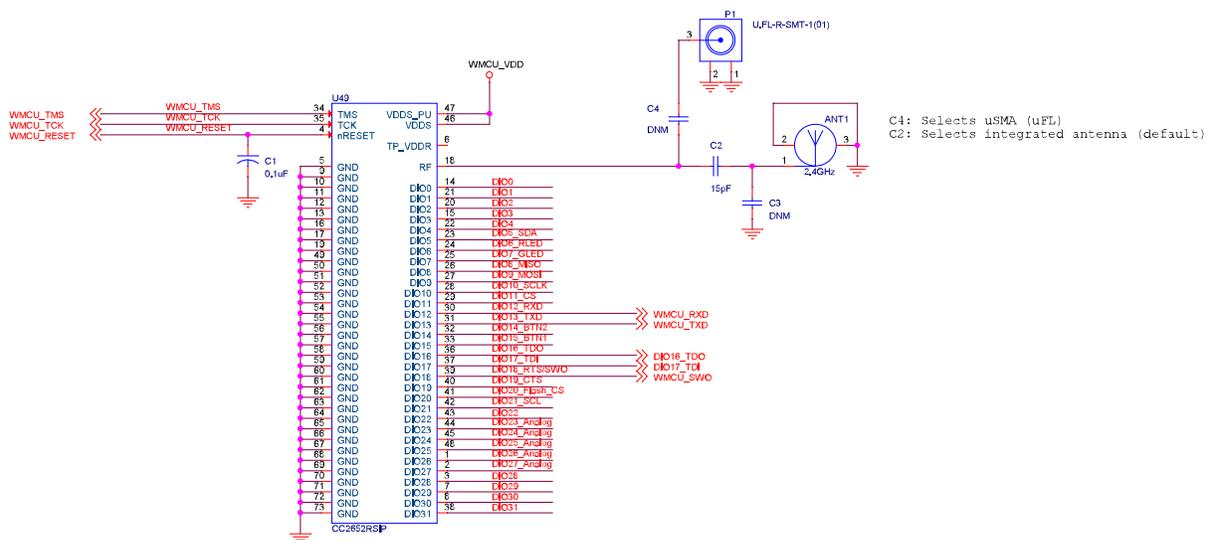

图 10-1. CC2652RSIP Typical Application Schematic
图 10-1 shows the typical application schematic using the CC2652RSIP module. For the full reference schematic, download the LP-CC2652PSIP Design Files.
表 10-1 provides the bill of materials for a typical application using the CC2652RSIP module in 图 10-1.
In order to meet the module power-on-reset requirements, an external 0.1 μ F capacitor is required on the nRESET pin during power ON. In addition, VDDS (Pin 46) and VDDS_PU (Pin 47) should be connected together. If the reset signal is not based upon a power-on-reset and is derived from an external MCU, then the external capacitor will not be needed and VDDS_PU (Pin 47) should be No Connect (NC). Please refer to 图 10-1 for the recommended circuit implementation and 表 10-1 for the recommended 0.1 μ F capacitor.